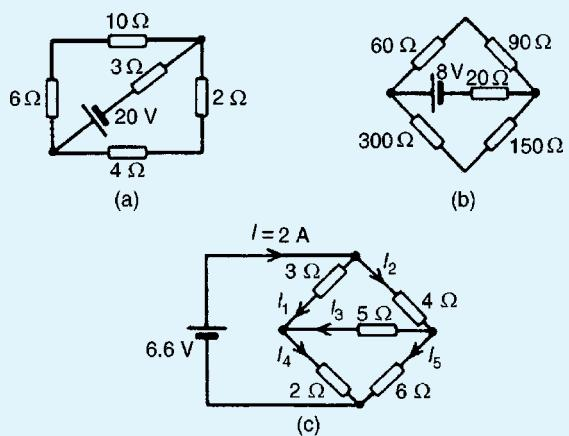

Figure 13.15
5. Find the current flowing in the  $3\Omega$  resistor for the network shown in Fig. 13.15(a). Find also the p.d. across the  $10\Omega$  and  $2\Omega$  resistors.
6. For the network shown in Fig. 13.15(b) find: (a) the current in the battery, (b) the current in the  $300\Omega$  resistor, (c) the current in the  $90\Omega$  resistor, and (d) the power dissipated in the  $150\Omega$  resistor.
7. For the bridge network shown in Fig. 13.15(c), find the currents  $I_1$  to  $I_5$ .